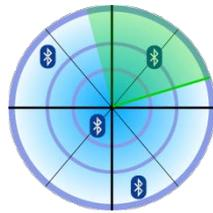

Figure 9: Smart Discover
2. Download and install SmartDiscover APP on the device. See fig 9 below for example of SmartDiscover APP Icon.